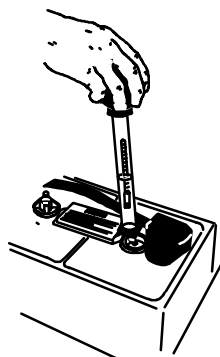

FIG. 24
1. Check the specific gravity using a hydrometer to determine the charge level and the condition of the batteries (Figure 24). If one or more of the battery cells read lower than the other battery cells (0.050 or more), the cell is damaged, shorted, or is about to fail. Check the hydrometer readings against the following chart to determine the remaining battery charge level.